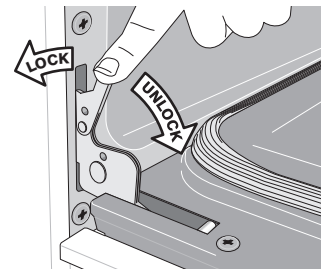

Figure 49: Door hinge locks
2. Pull the door hinge locks on both left and right door hinges down from the oven frame completely towards the oven door (See Figure 49). A tool such as a small flat-blade screwdriver may be required.
4. Push the door hinge locks up towards and into the oven frame on both left and right oven door hinges to the locked position (See Figure 49).